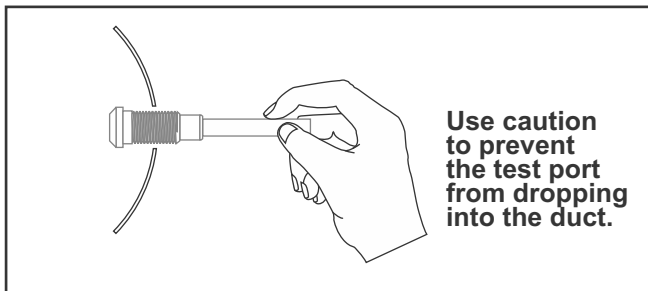

Fig. 43: Insert Test Port into duct
4. Insert Test Port: Work the test port into the hole until just the handle is showing outside the hole. (Fig. 43)
- 4. Insert Test Port:** Work the test port into the hole until just the handle is showing outside the hole. (Fig. 43)